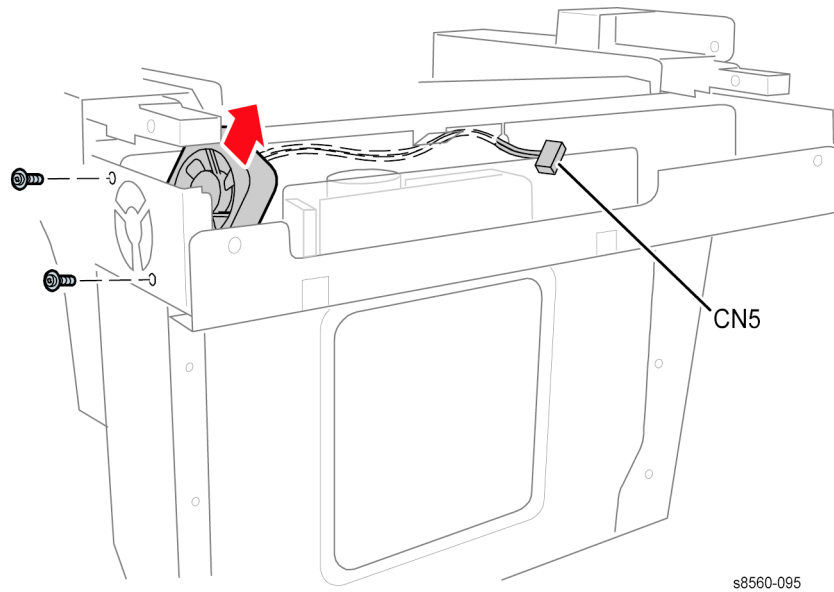

Figure 1 Removing the Scanner Power Supply Fan
**NOTE:** Route the fan harness behind the mylar insulator as shown in Figure 1.